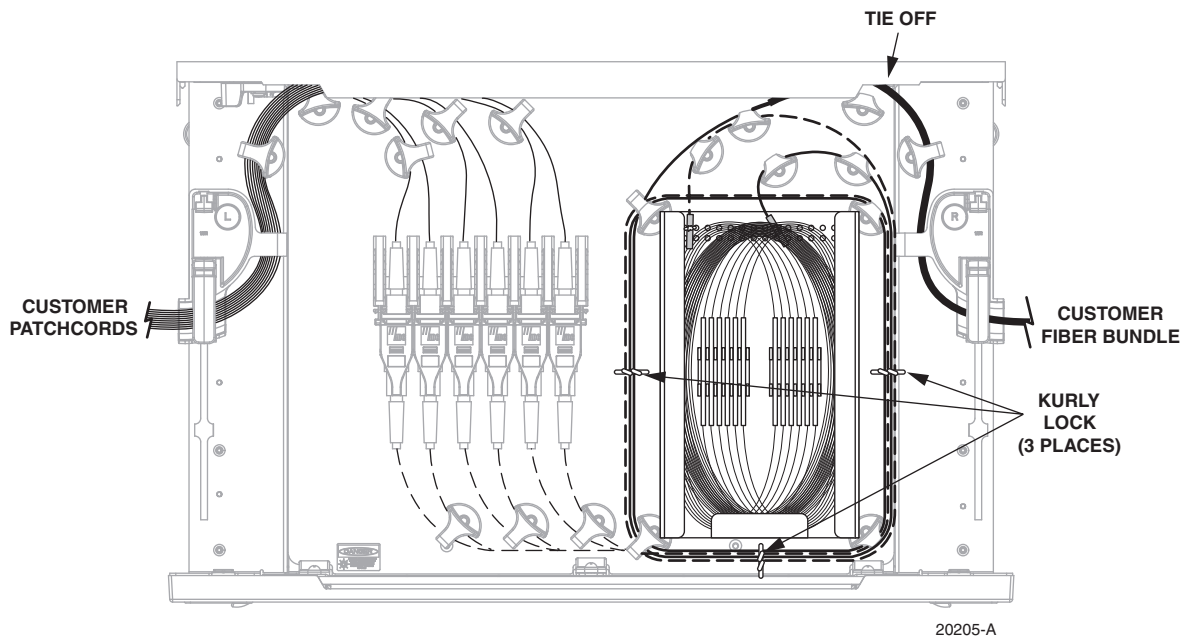

Figure 15. Completed Cable Routing for 12-Position Termination and Splice Tray
5. Use the kurlly locks provided to bundle fibers together as needed. Place kurlly locks at locations indicated in Figure 15.
6. Verify that the completed tray looks as shown (see Figure 15).